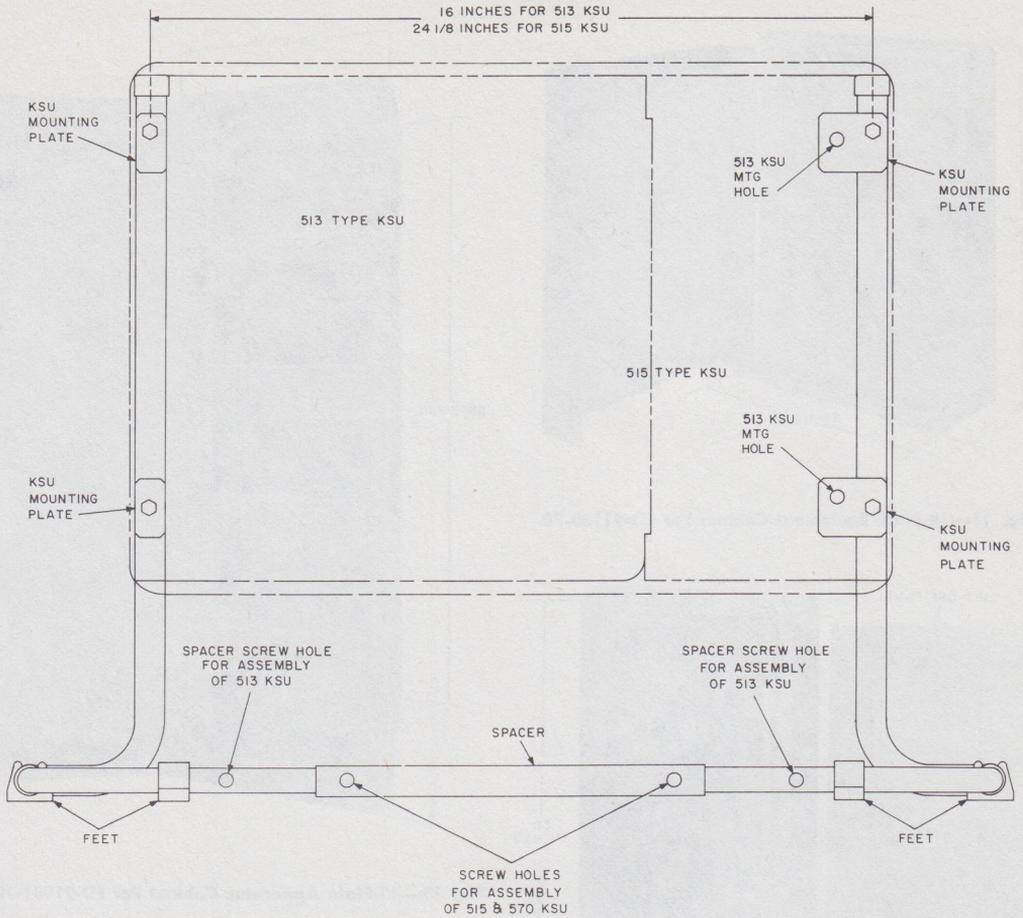

Fig. 9—77B Apparatus Mounting
- 77B apparatus mounting (Fig. 9)
2.10 The 77B apparatus mounting (Fig. 9) is a floor-type nonanchored metal (preformed steel tubing) stand adjustable for mounting 513-, 515-, and 570-type KSUs when wall mounting is not available. Overall dimensions are 24-1/2 inches